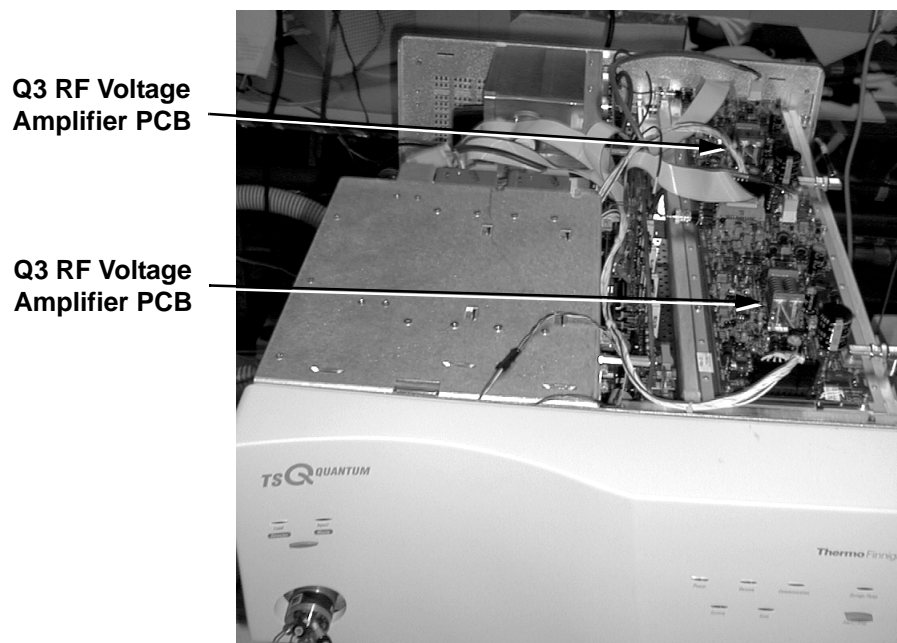

Figure 7-3. PCBs accessible from the top
- PCBs and assemblies that are accessible from the top of the mass spectrometer (See Figure 7-3.)